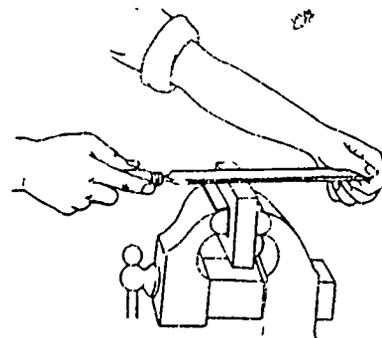

Fig. E-48. Filing in a vise
- Ensure that the material to be filed is held securely in a vise or with clamps. Hold the file with both hands and file in the forward direction only, exerting firm but not heavy pressure. (See Fig. E-48.) Raise the file on the return stroke to clear the material. In the case of soft metals such as lead or aluminum, however, draw the file back along the material on the return stroke to clean the soft metal cuttings from the teeth. For fine finishing, rub some chalk on the file; this will act as a lubricant.